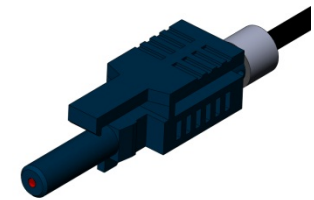

Fig 11
16.The final assembly should appear as shown in Figure 11. Your Done! Ready for your TX or RX